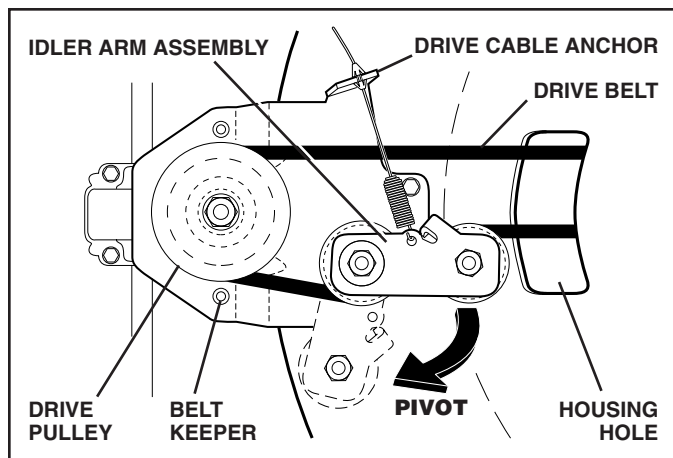

FIG. 19
3. Remove drive cable from anchor, then detach spring from idler arm assembly (See Fig. 19).
4. Position blade on the blade adapter aligning the two (2) holes in the blade with the raised lugs on the adapter.
5. Be sure the trailing edge of blade (opposite sharp edge) is up toward the engine as shown (See Fig. 19).